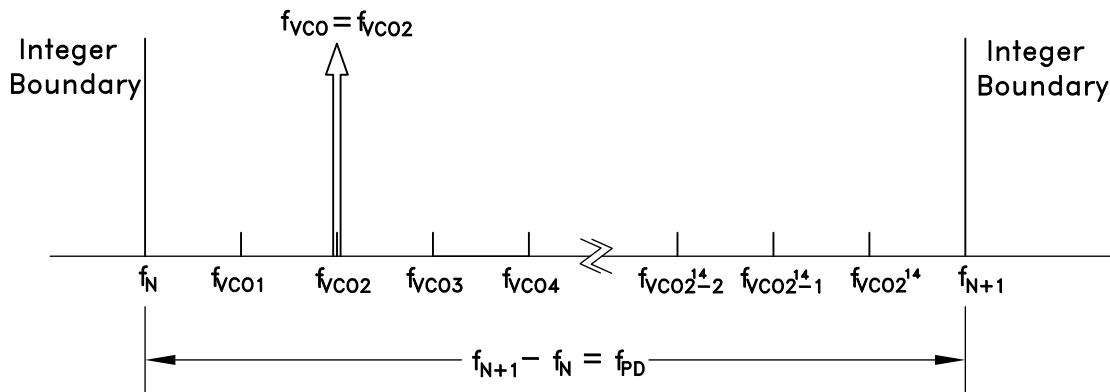

Figure 44. Exact Frequency Tuning
and f_{VCOk} are the channel step frequencies where $0 < k < 2^{24}-1$, As shown in Fig 44.
Some fractional PLLs are able to achieve this by adjusting (shortening) the length of the Phase Accumulator (the denominator or the modulus of the Delta-Sigma modulator) so that the Delta-Sigma modulator phase accumulator repeats at an exact period related to the interval frequency ($f_{VCOk} - f_{VCO(k-1)}$) in Fig 44. Consequently, the shortened accumulator results in more frequent repeating patterns and as a result often leads to spurious emissions at multiples of the repeating pattern period, or at harmonic frequencies of $f_{VCOk} - f_{VCO(k-1)}$. For example, in some applications, these intervals might represent the spacing between radio channels, and the spurious would occur at multiples of the channel spacing.
If it is desirable to have multiple, equally spaced, exact frequency channels that fall within the same interval (ie. $f_N \leq f_{VCOk} < f_{N+1}$) where f_{VCOk} is shown in Fig 44 and $1 \leq k \leq 2^{24}$, it is possible to maintain the same integer-N (Reg 03h) and exact frequency register (Reg 0Ch) settings and only update the fractional register (Reg 04h) setting. The Exact Frequency Channel Mode is possible if (EQ 16) is satisfied for at least two equally spaced adjacent frequency channels, i.e. the channel step size.
To configure the HMC835LP6GE for Exact Frequency Channel Mode, initially and only at the beginning, integer (Reg 03h) and exact frequency (Reg 0Ch) registers need to be programmed for the smallest f_{VCO} frequency (f_{VCO1} in Fig 44), as follows:
1. Calculate and program the integer register setting $\text{Reg 03h} = N_{INT} = \text{floor}(f_{VCO1}/f_{PD})$, where f_{VCO1} is shown in Fig 44 and corresponds to minimum channel VCO frequency. Then the lower integer boundary frequency is given by $f_N = N_{INT} \cdot f_{PD}$.
$\text{Reg 04h} = N_{FRAC} = \text{ceil}\left(\frac{2^{24}(f_{VCOk} - f_N)}{f_{PD}}\right)$ where $f_N = \text{floor}(f_{VCO1}/f_{PD})$, and f_{VCO1} , as shown in Fig 44, represents the smallest channel VCO frequency that is greater than f_N .
4. To change from channel 1 ($f_{VCO1} = 2800.2$ MHz) to channel 2 ($f_{VCO2} = 2800.3$ MHz), only **Reg 04h** needs to be programmed, as long as all of the desired exact frequencies f_{VCO_k} (Fig 44) fall between the same integer-N boundaries ($f_N < f_{VCO_k} < f_{N+1}$). In that case